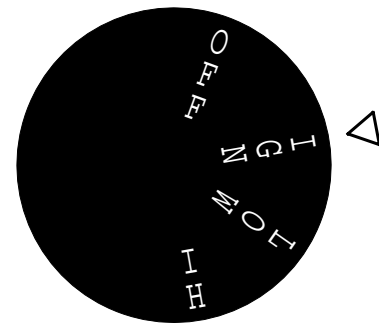

Figure 18
7. Depress control knob in and turn counterclockwise  to the "IGN" position (*Figure 18*). Press the control knob all the way in for 5 seconds.
1. Depress and turn control knob clockwise  to the "OFF" position (*Figure 18*).